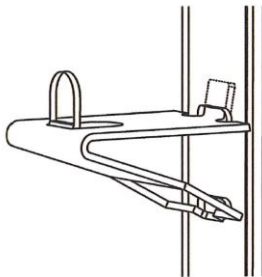

Figure 1
- The shelves may be adjusted by moving the clips as illustrated in Figure 1 below.